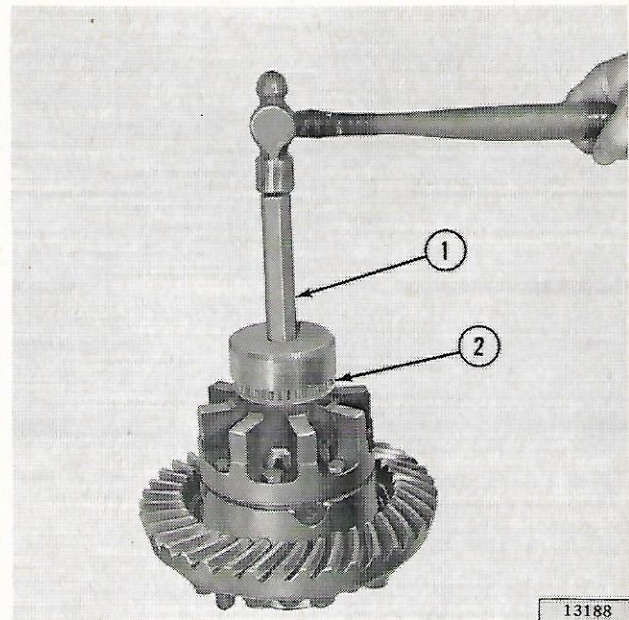

FIG. 11-19—DIFFERENTIAL BEARING DRIVER
- e. Place the differential bearing shim packs on the differential case under each bearing. Install bearings with Driver C-4025. See Fig. 11-19.